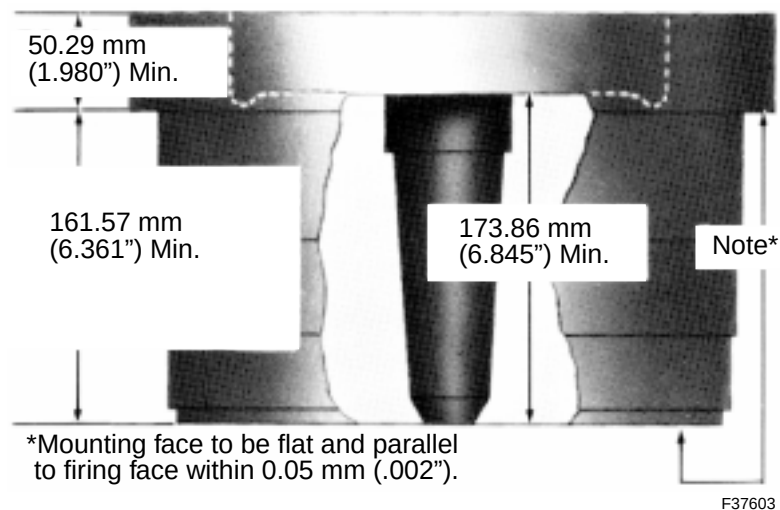

Figure 2-6. Injector Hole Rework And Rework Limits
2. Do not exceed maximum injector hole diameter or maximum allowable blend radius, Figure 2-6 on page 2-8.
The following paragraphs contain recommendations for tooling and procedures to meet the required rework limits, Figure 2-6 on page 2-8.
5. The distance between the underside of the flange and the gasket surface of the fireface must be maintained, Figure 2-6 on page 2-8. To hold this dimension within specification, it will generally be necessary to machine the fireface and underside of the flange simultaneously because of the tight requirement of parallelism between the underside of the flange and the fireface, Figure 2-7. However, the cut on the underside of the flange should be a minimum within the allowable range of the fireface to flange dimension.